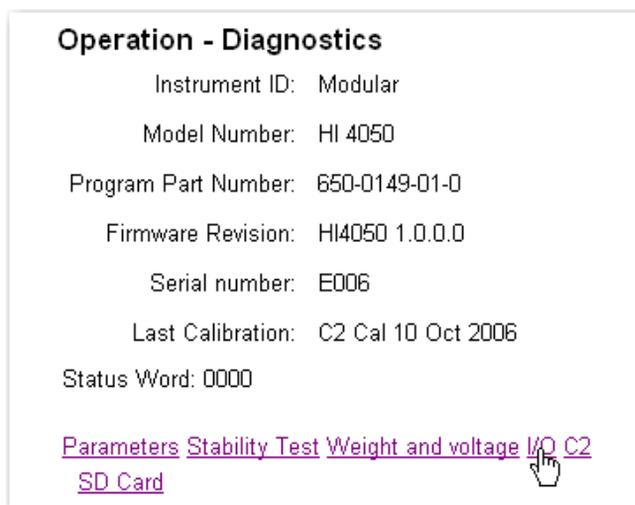

FIG. 422 DIAGNOSTICS/SELECTING I/O
Step 1. Click on "I/O" at the bottom of the page. (See Fig. 422) The Input and Output page appears. (See fig. 423)